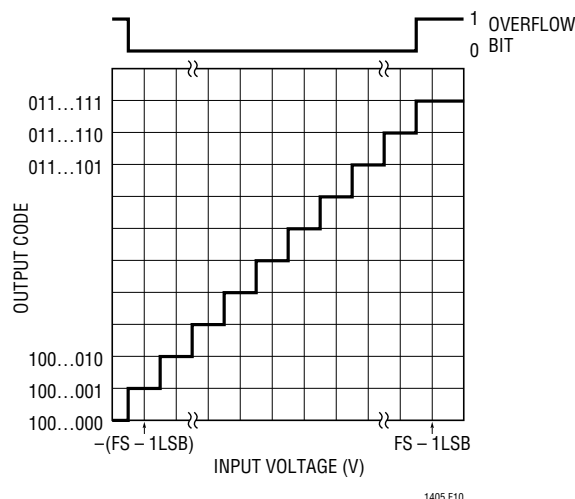

Figure 10. LTC1405 Transfer Characteristics
Figure 10 shows the ideal input/output characteristics for the LTC1405. The output data is two's complement binary for all input ranges and for both single and dual supply operation. One LSB =  $V_{REF}/4.096$ . To create a straight binary output, invert the MSB (D11). The overflow bit (OF) indicates when the analog input is outside the input range of the converter. OF is high when the output code is 1000 0000 or 0111 1111 1111.